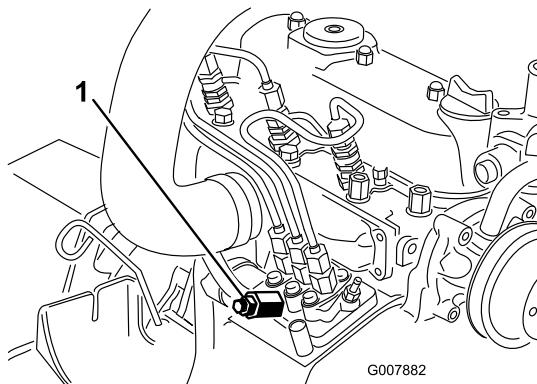

Figure 48
3. Place a rag under the air bleed screw on the fuel injection pump and open it (Figure 48).